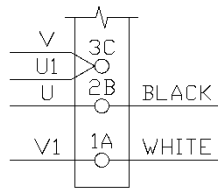

Figure 3-10 230V Transformer Primary
- 3.5.9.1 Ensure the control transformer’s primary winding is wired appropriate for the input power supply voltage. See Figures 3-10 or 3-11.